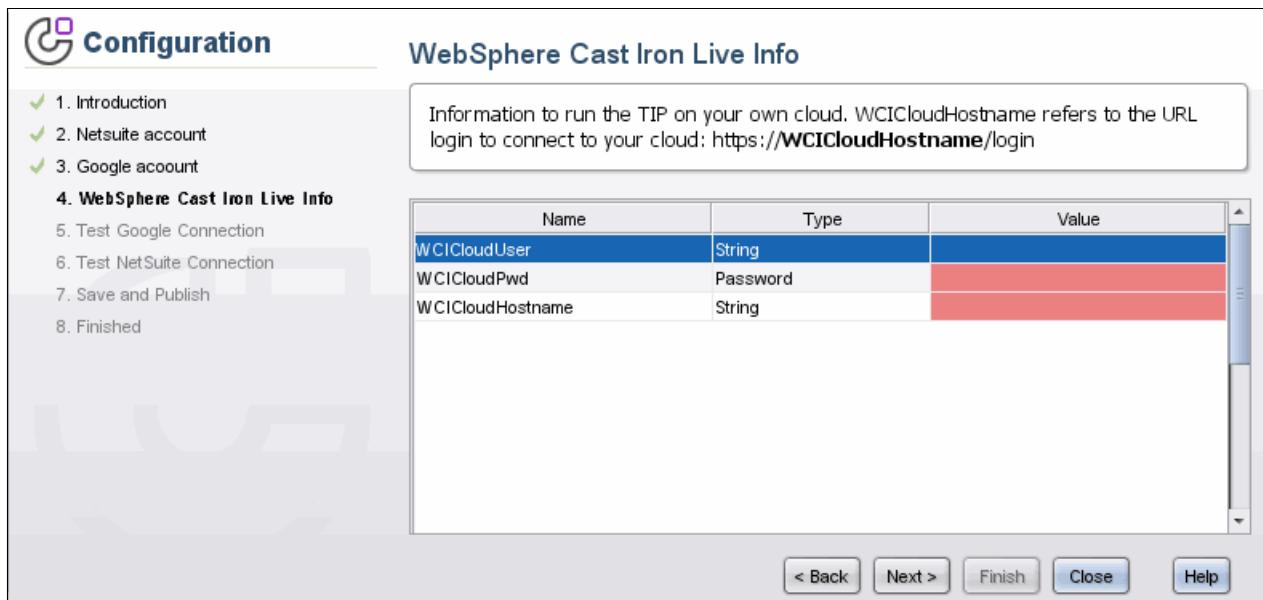

Figure 11-11 TIP configuration wizard step 4: Cast Iron Live details
8. In step 4, enter the Cast Iron Live details, as shown in Figure 11-11, and then click **Next**.